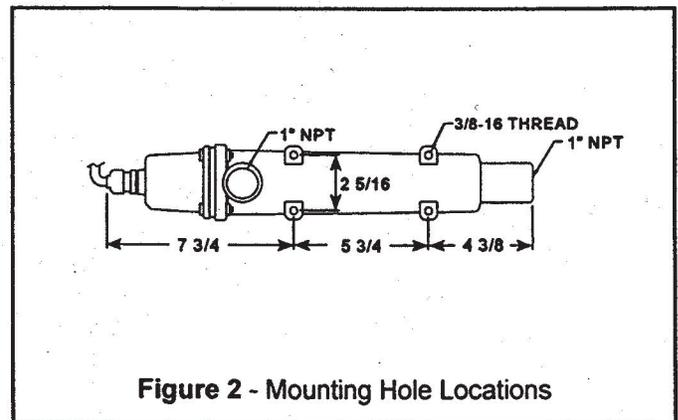

Figure 2 - Mounting Hole Locations
1.2.3 Mount the heater to the inside of the frame. Refer to FIGURE 2 for locations of heater mounting holes.